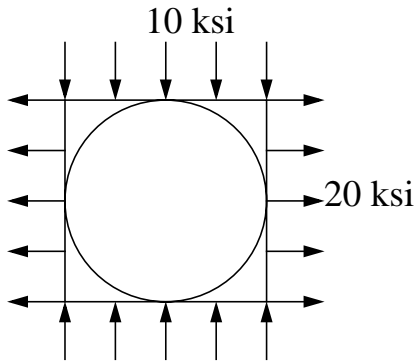

Fig. P3.78
3.78 A 2in x 2 in square with a circle inscribed is stressed as shown Fig. P3.78. The plate material has a Modulus of Elasticity of $E = 10,000$ ksi and a Poisson's ratio $\nu = 0.25$. Assuming plane stress, determine the major and minor axis of the ellipse formed due to deformation.